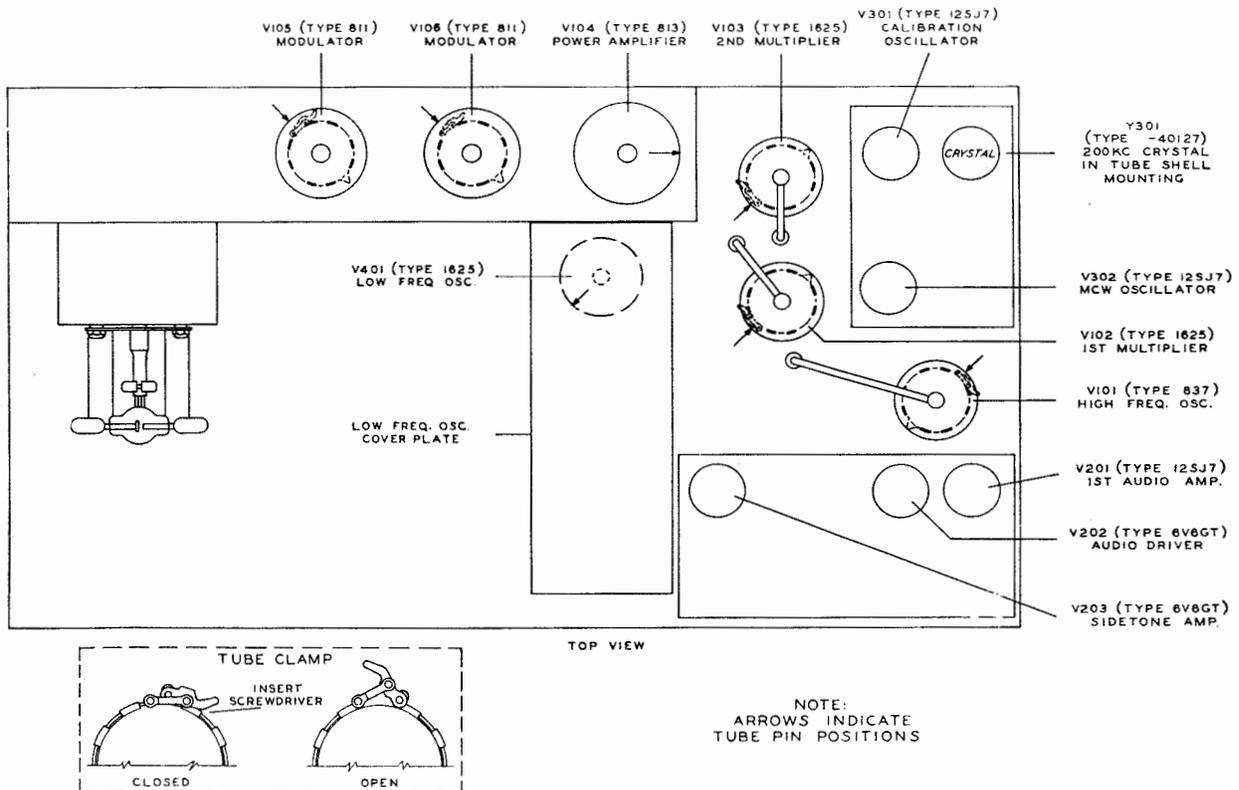

Fig. 29 Tube Placement Diagram (Dwg. No. K1627B)
3.3.1. The tube placement diagram, Figure 29, consists of an outline drawing of the top view of the transmitter unit with cover removed. This drawing shows the proper location of the transmitting tubes and illustrates the operation of the tube clamps. Also refer to Figure 42.
3.4.3. Plug the crystal unit into the eight prong octal socket in the extreme rear right-hand corner of the transmitter as illustrated in Figure 29.